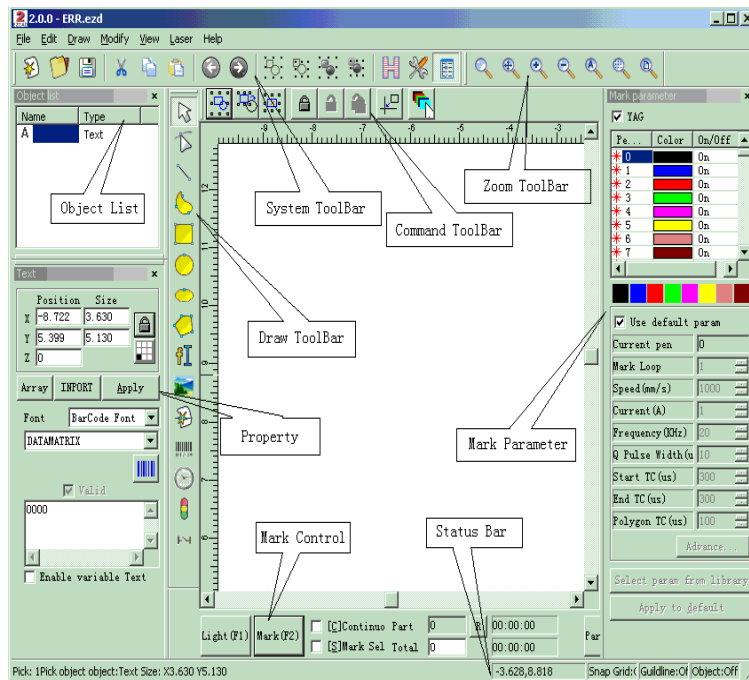

Figure 1-2 SIC- LASER PC Main Window
- **Main Interface (Figure 1-2)**